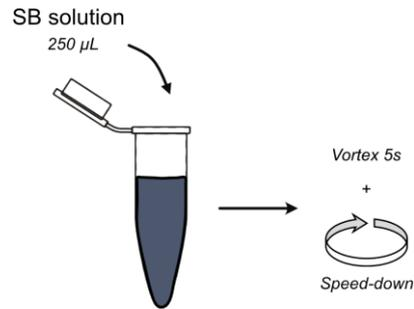

Figure 8. Adjust binding conditions.
5. Adjust binding conditions (Figure 8):